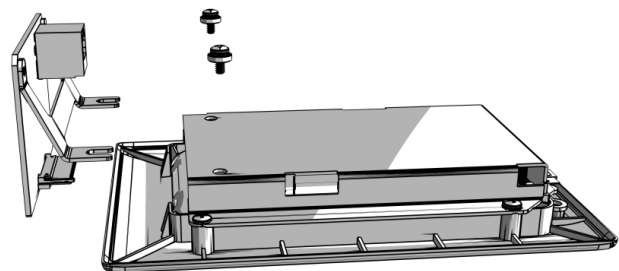

Figure 8: Attach Connector Board
13. Place the conector board into the iPod touch and secure to backplate with 2 screws. See Figure 8. Connect RJ-45 Cable to connector